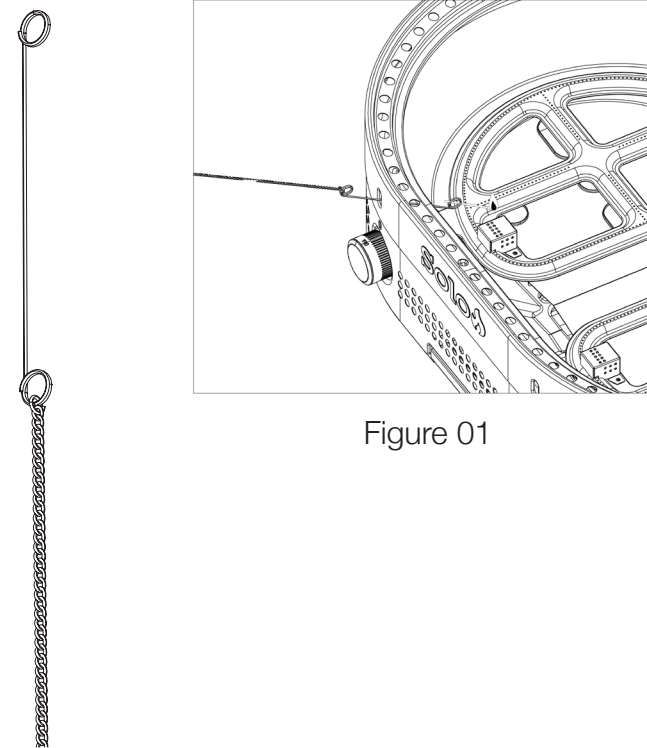

Figure 01
3. With the match holder extended, insert the lit match into the Griddle until it is over the burner tube. The tube should light. (See Figure 01).